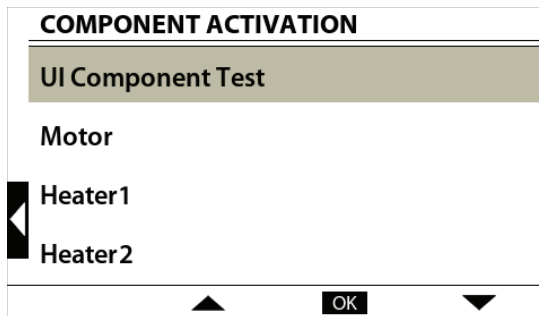
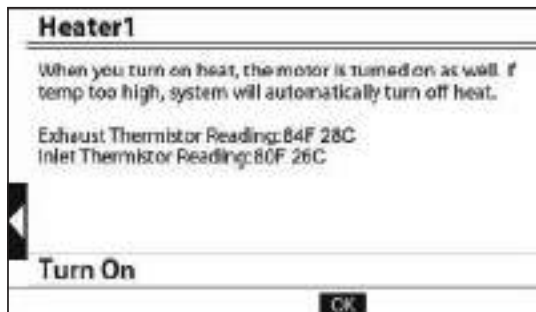

Figure 6 - Component Activation Menu
Figure 7 - Component Screen
Activation and functional testing of system components and sensors (see Figure 6).
- **Component Activation** – When a component is selected from the Component Activation menu (see Figure 6), a screen appears providing component information, and if available, attributes related to the component (see figure 7). Many of the components listed can be turned on and off. By default, the component is off. (See chart on page 6.)